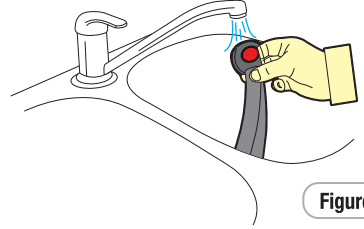

Figure 5
**Step 6:** Place the Buckle under warm (max. 40 degrees Celsius) running water as shown below. Let the water run through the mouth of the buckle for five minutes. Do not immerse the harness in water (refer Figure 5).